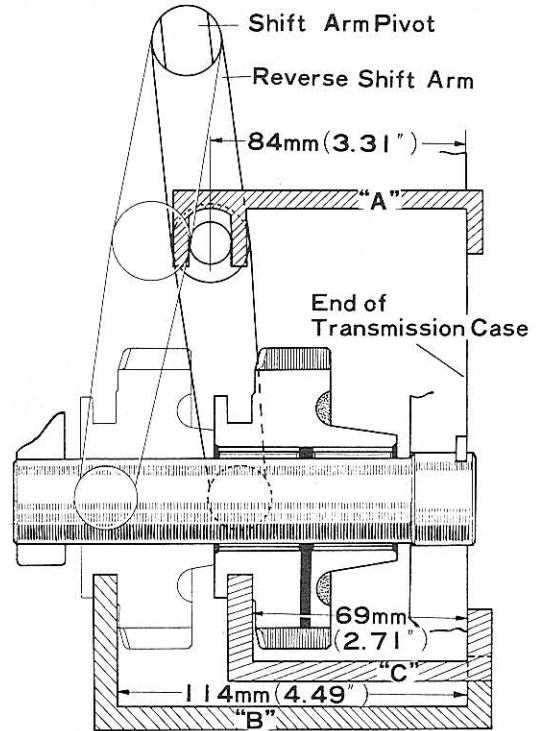

Fig.2-94 Reverse Shift Arm Adjustment G2387
- (3) Install the gauge "B" into the shift groove of the reverse idler gear, and adjust the gear position (reversely shifted position) by turning the shift arm pivot to obtain the distance of 114 mm or 4.49" between the outer rear end of the transmission case to the gear front end as figure 2-94. Tighten the shift arm pivot lock nut securely.
- (4) Next, install the gauge "A" onto the reverse shift arm pin, and the gauge "C" into the shift groove of the gear, and check the